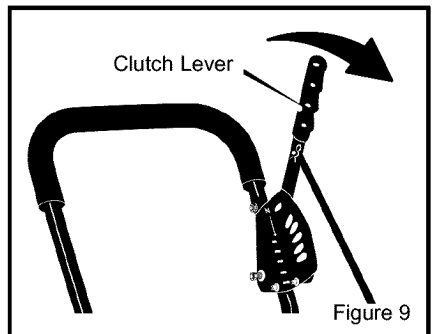

Figure 9
2. To engage the cutting blade, move the **clutch lever** forward (see Figure 9).